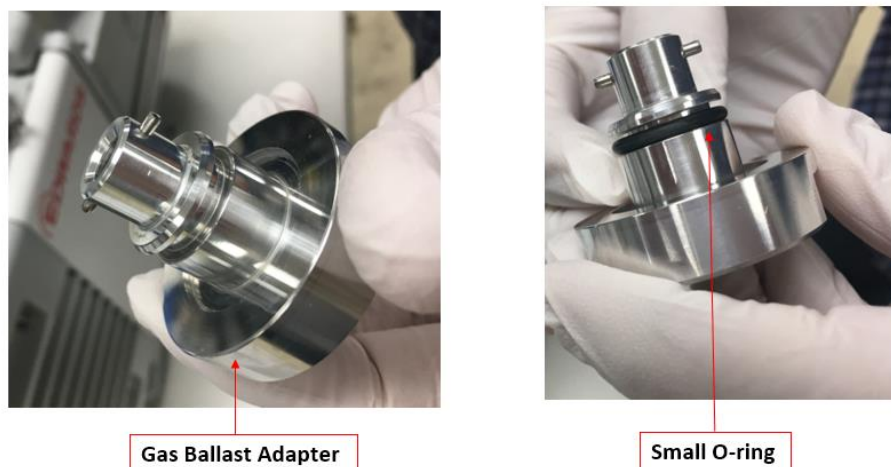

Figure 6: Adding the small O-ring to the gas ballast adapter
- a. Add the smaller O-ring so that it seals radially on the metal adapter. See Figure 6.